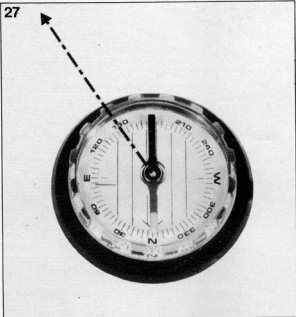

Fig. 27. Using a compass to find the approximate azimuth for the dish aerial (example).
B. The dish location should offer an unobstructed line of sight to the relevant satellite. Go to the planned dish site and use the compass to find south, i.e. the needle should register with the N indication. Stand with your back to the north and acquire a horizontal line, starting from the compass pivot, across the calculated azimuth value on the dial, straight to an orientation point well removed from your position—see Fig. 27. This point may be any fairly high, well discernable object, such as a tree top, a building, a neighbour's aerial mast, a lamp post, a traffic sign, etc. Straight above this point, a considerable area of the sky should be visible, i.e. there must not be higher objects further towards the horizon. In western Europe, most satellites can be received with angles of elevation of the order of 20° to 35°, i.e. they are sufficiently high up in the sky to ensure a line of sight path with the dish mounted on a post in the ground. However, in densely built areas, it may be necessary to raise the dish well above the ground to ensure a clear view in the appropriate direction.